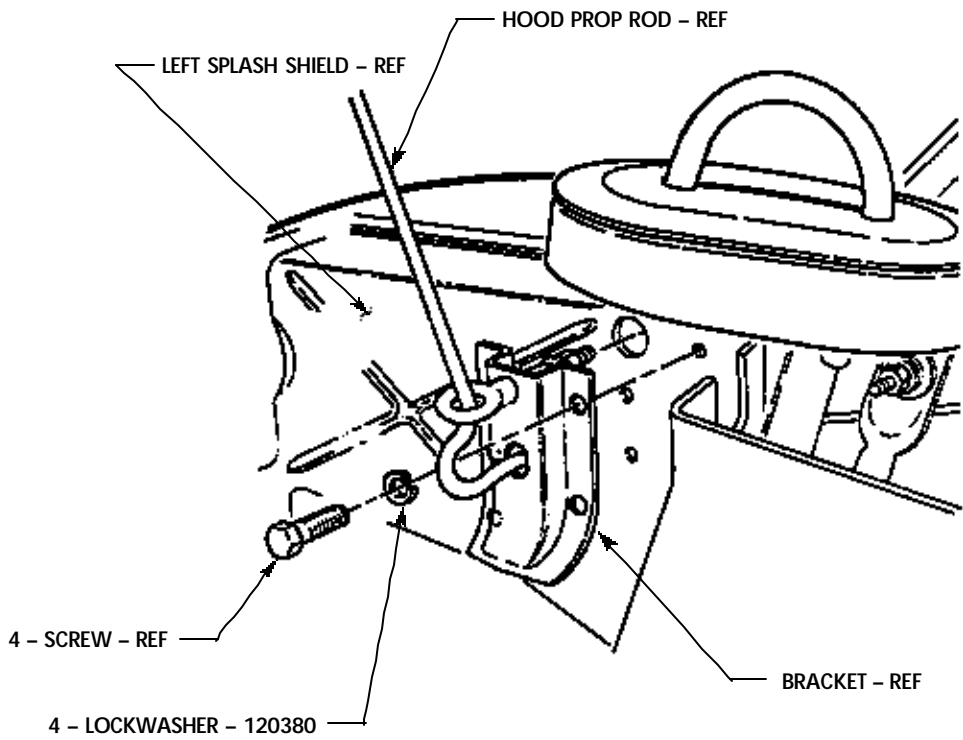

FIGURE 1
- (9) Install hood prop rod and bracket on left splash shield and airlift bracket with four 120380 lockwashers and screws as shown in figure 1.